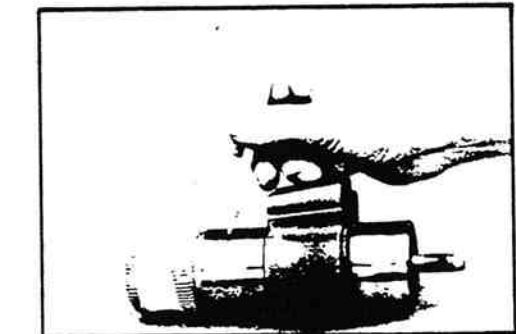

Figure 11-52. Shaft Bearing Seal Area.
7. Inspect the sector shaft (39) bearing sealing areas for brinelling or spalling. Run your fingernail edge across these areas to detect steps. Inspect for cracks. If any of these conditions exist, replace the sector shaft (figure 11-52).